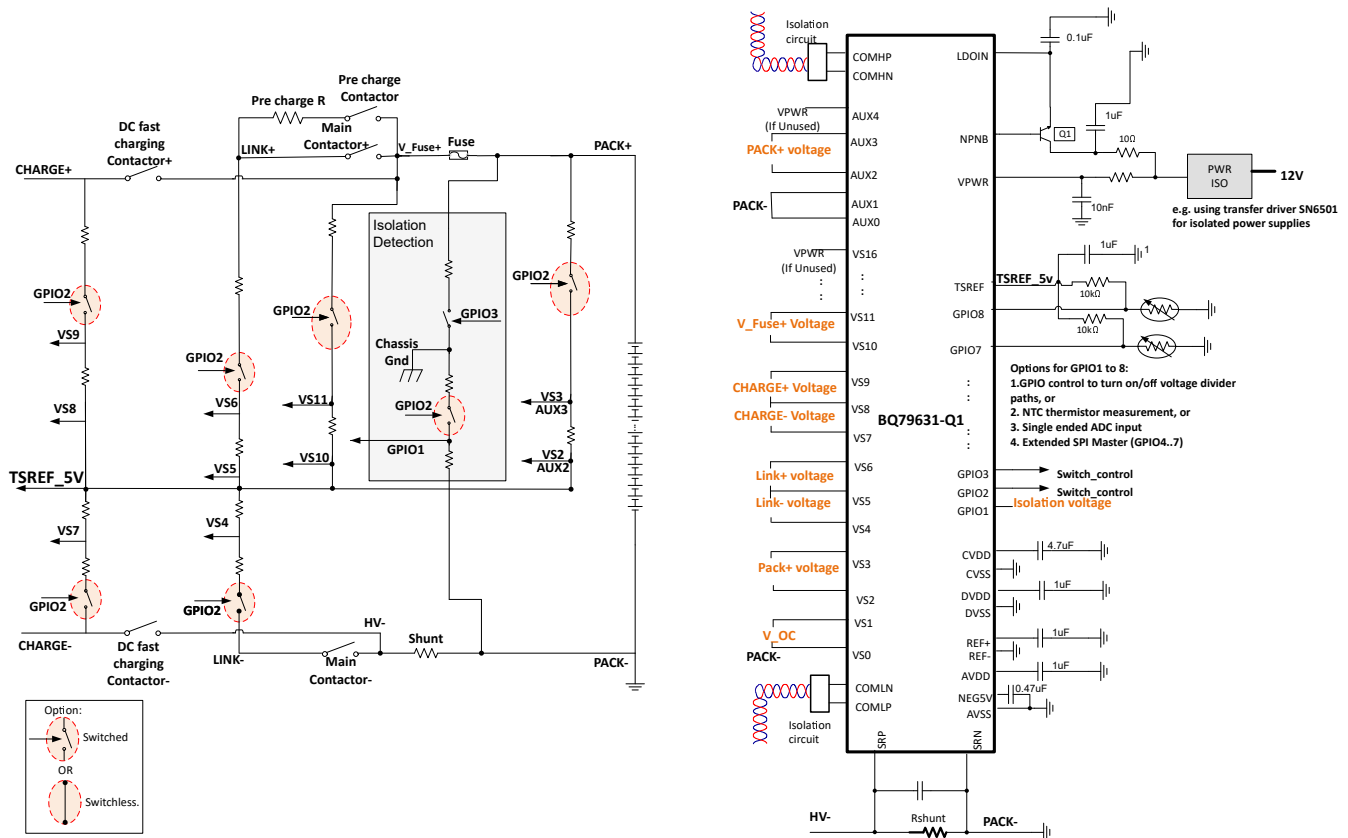

Figure 9-1. Typical BJB Application Circuit and Connections for Voltage (U), Current (I), and Insulation Resistance (R)
The following application circuit (see Figure 9-1) is based on the BQ79631-Q1 device operating in a BJB/BDU.
A typical BJB application circuit and connections for voltage (U), current (I), and insulation resistance (R) are shown in Figure 9-1